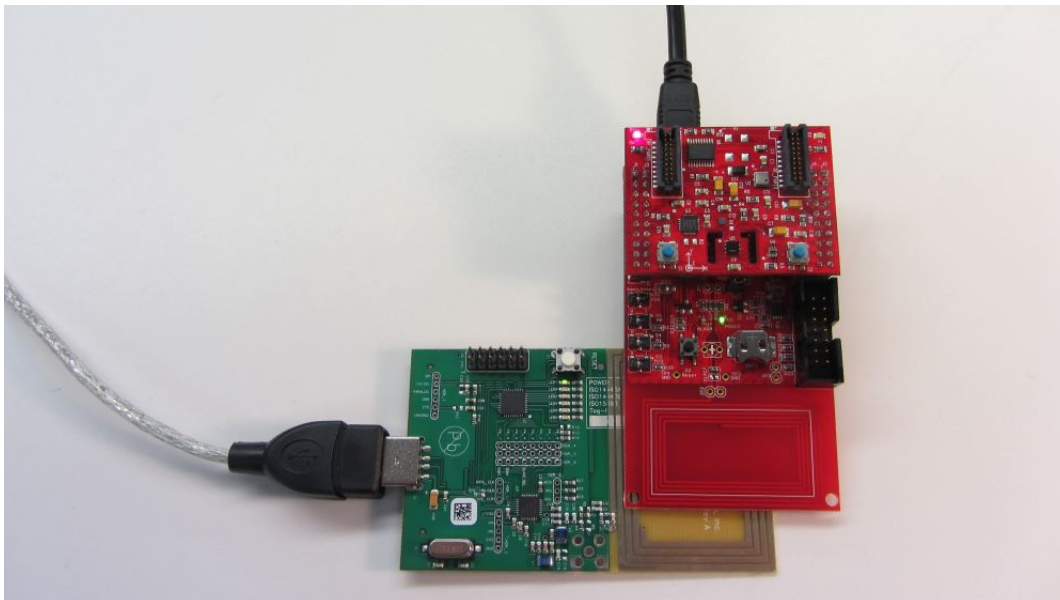

Figure 16. BoosterPack Plug-in Module Configuration
3. Attach the Sensor Hub BoosterPack plug-in module on top of the RF430FRL152HEVM. Make sure that the orientation is correct (see Figure 16).
5. Position the RF430FRL152HEVM antenna on the antenna portion of the TRF7970AEVM as shown in Figure 16. It is recommended to have an insulator between the two antennas or to hold them at a distance from each other to prevent any short circuits.